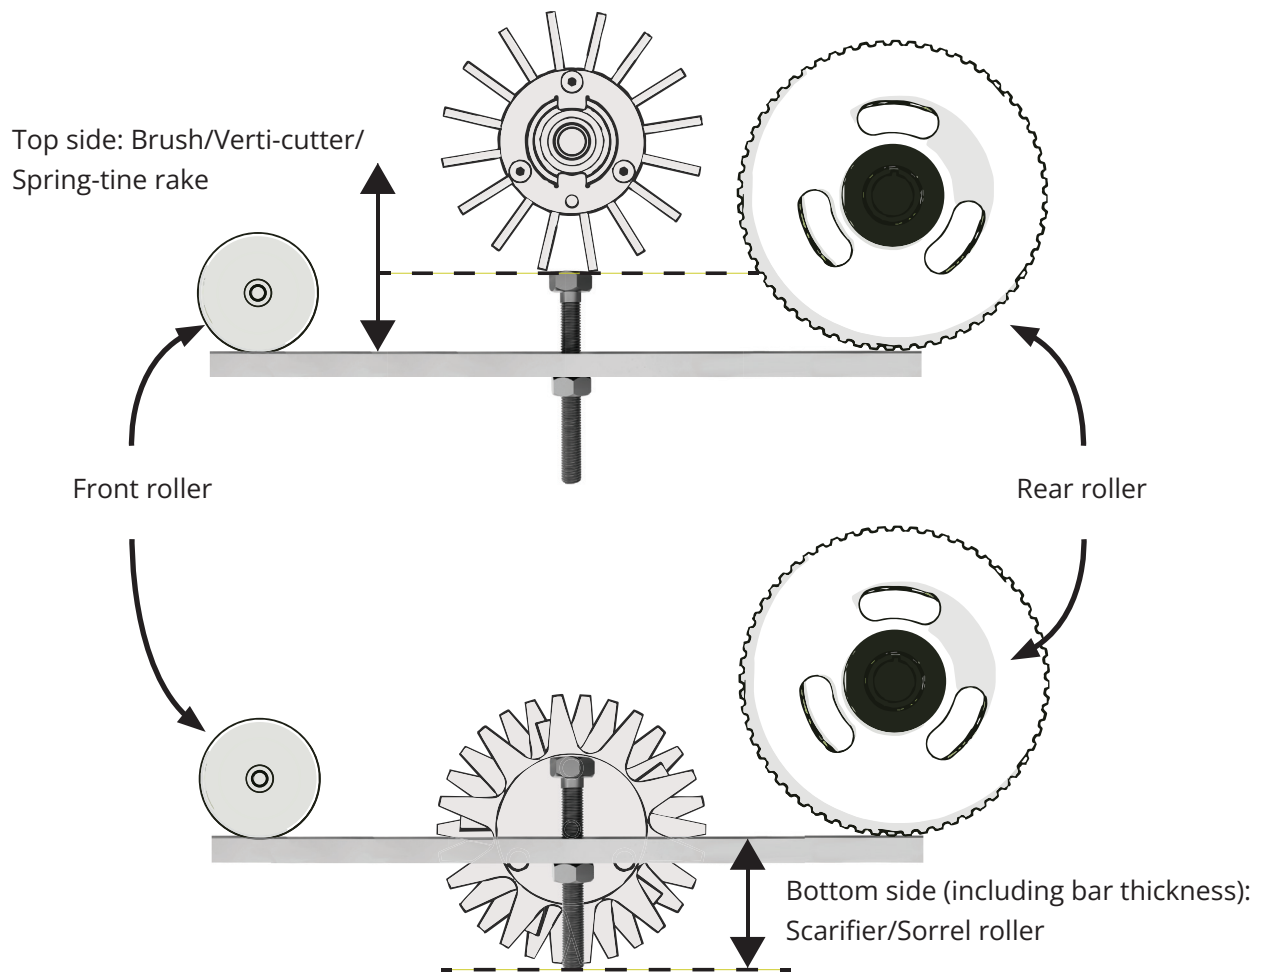

Fig.10. Setting bar measurement for above/below ground cassettes.
3. On the setting bar, adjust the bolt against the rule until the distance above or below the setting bar (to the head or end, respectively) is to that desired (Fig. 10). To note:
While adjusting the height, position up the setting bar again between the front and rear roller. Stop adjusting when either the tips of the brush hairs/verti-cutters are level with the bolt head, or the tips of the scarifier/sorrel roller are level with the bolt end. (Fig. 10).